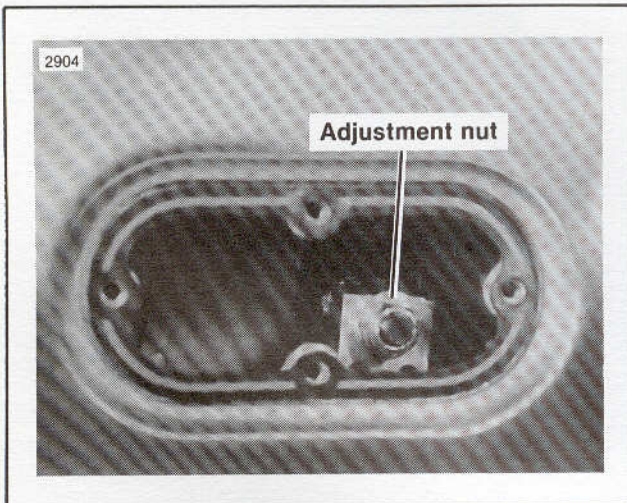

Figure 6-1. Primary Chain Adjustment
1. See Figure 6-1. With vehicle upright and level, remove the primary case inspection cover. There will be a loss of lubricant.